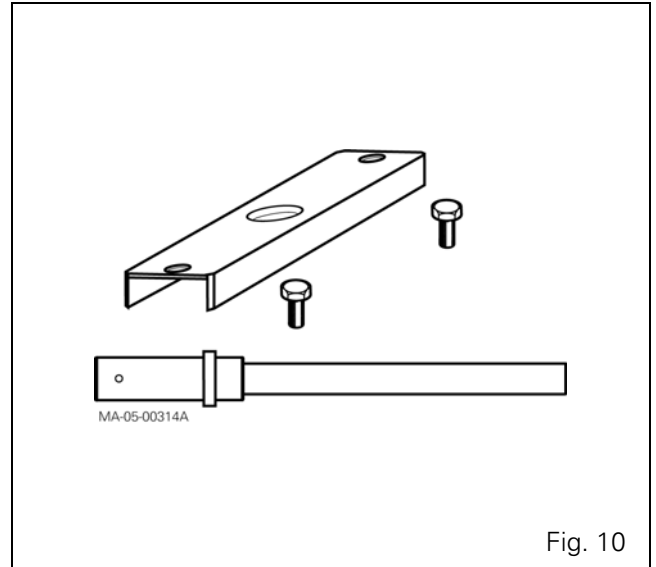

Fig. 10
- **3378225M11:** - Sling for unit with Power Shuttle (Fig. 10)